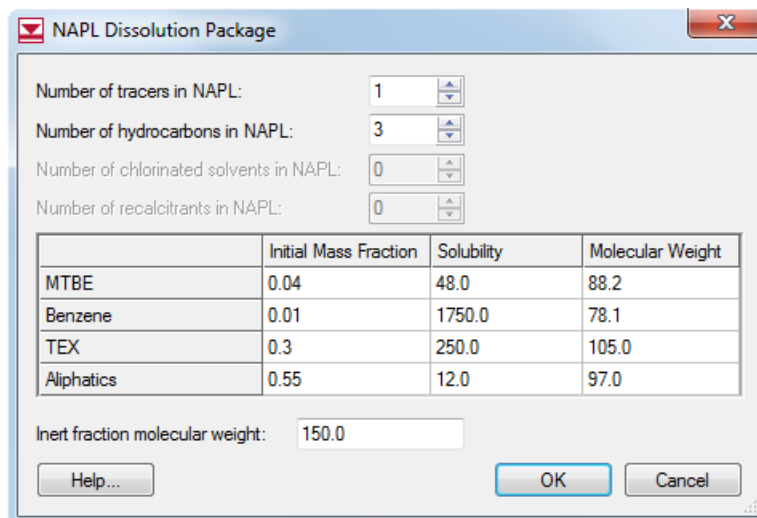

Figure 4. NAPL Dissolution Package dialog.
5. Enter the values shown in Figure 4 for all four species.